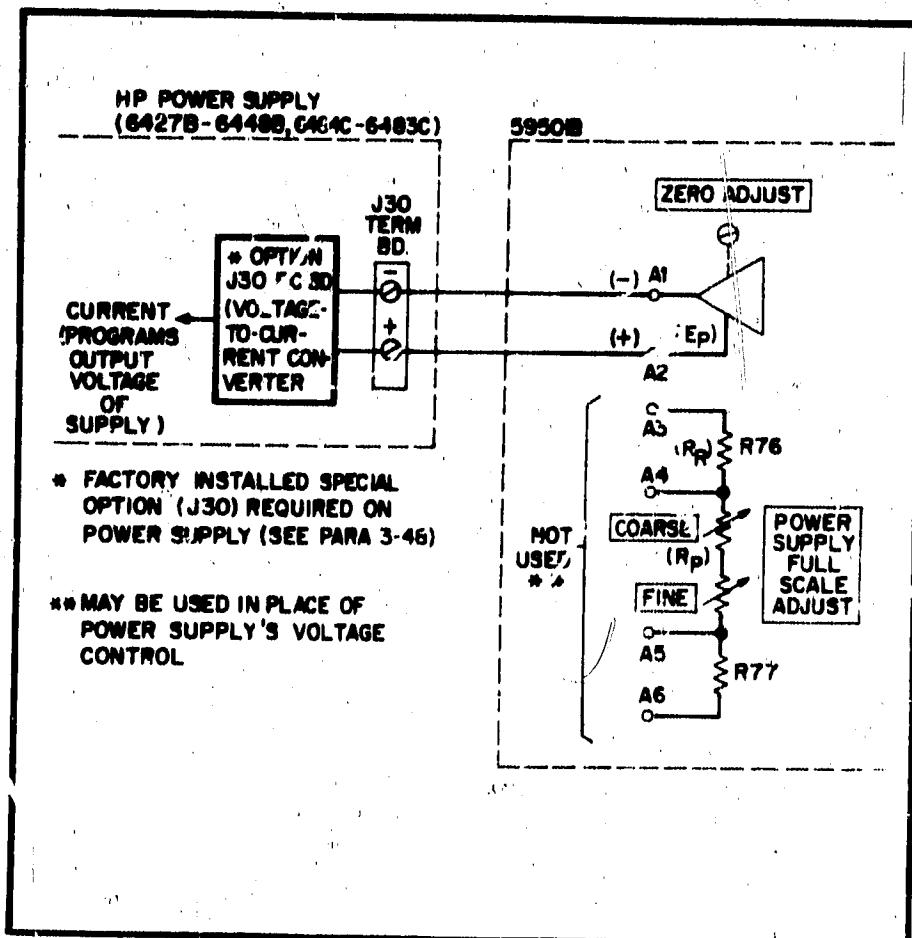

Figure 3-10. CV Programming Connections for HP Power Supply Models 6427B-6448B and 6466C-6483C
**3-48 Special Option J30.** An additional circuit, designated special Option J30, is required when CV programming models 6427B through 6448B and 6466C through 6483C. The Option J30 circuit is a voltage-to-current converter and is required because the 59501B is essentially a constant voltage source. The above supplies utilize current sources in their programming networks. The programmable 0 - 10V output of the 59501B is connected to the Option J30 input terminals (+ and -) on the rear of the supply as shown in Figure 3-10. One characteristic of the J30 converter is that if its input is open circuited, the output of the power supply will rise to about 25% of its rating. With the 59501B connected, the open circuit condition is prevented because a protection circuit in the 59501B presents a low impedance to the J30 input when ac power is removed from the 59501B (see paragraph 4-13).
for all programming voltage received from the 59501B. As indicated on Figure 3-10, the user may disable the front panel VOLTAGE controls and connect the 59501B's POWER SUPPLY FULL SCALE ADJUST in their place. Refer to the applicable power supply's Operating and Service Manual for additional connection information.